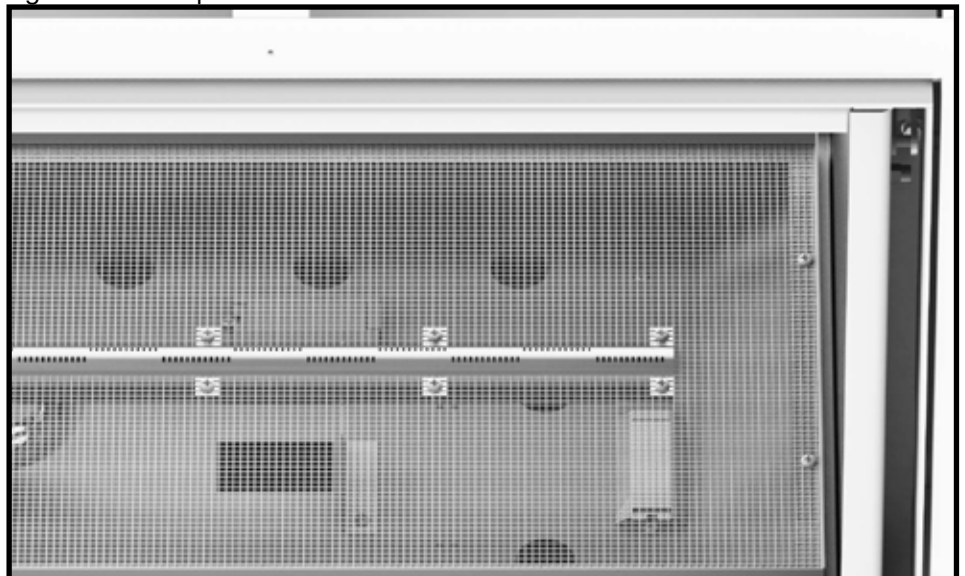

Figure 78: Mesh installation.
9. Place mesh burner tray on top of burners and secure the tray ends to the panels first. Two screws per side. (Figure 78)
10. Secure the mesh to the burners with screws provided by screwing through mesh to each small flange on the burners, 8 per burner (Figure 78)